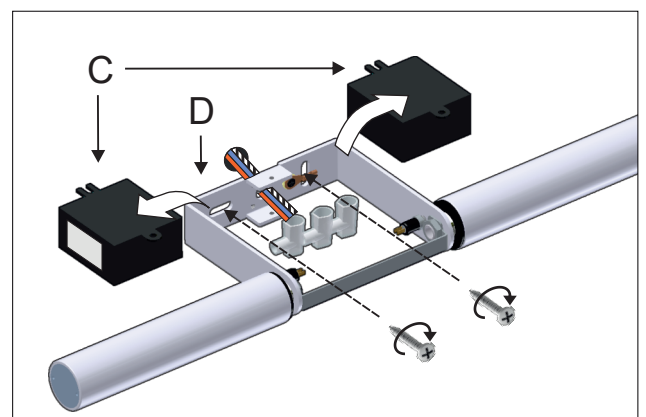

Figure 2
2 - Move the drivers (C) toward outside of the mounting bracket (D) to facilitate the installation of the lamp. Pass the network cables through the central hole of the mounting bracket and fix it to the wall. Figure 2.